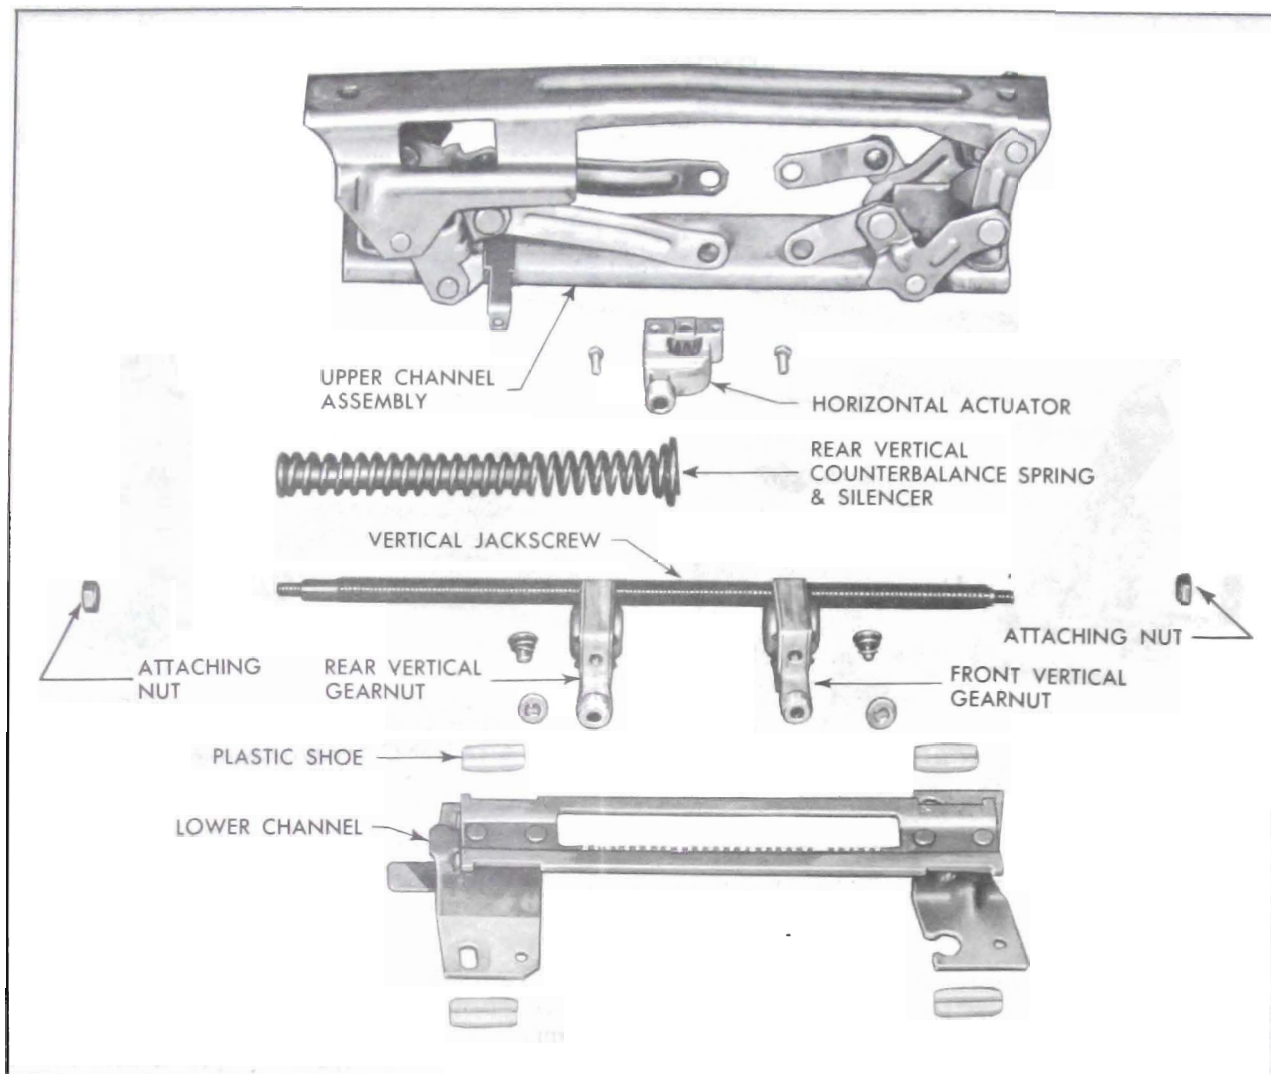

Figure 5-8—Six Way Seat Adjuster Assembly
5. Remove jackscrew front and rear attaching nuts (Figure 5-8). Lift front end of jackscrew sufficiently to disengage from support; then disengage rear end of jackscrew from support and remove jackscrew, gear nuts and spring assembly from adjuster. Spring and spring silencer may now be removed from jackscrew (Figure 5-8).
3. Slide seat adjuster lower channel from upper channel and, if required, remove plastic shoes from lower channel track (see Figure 5-8).